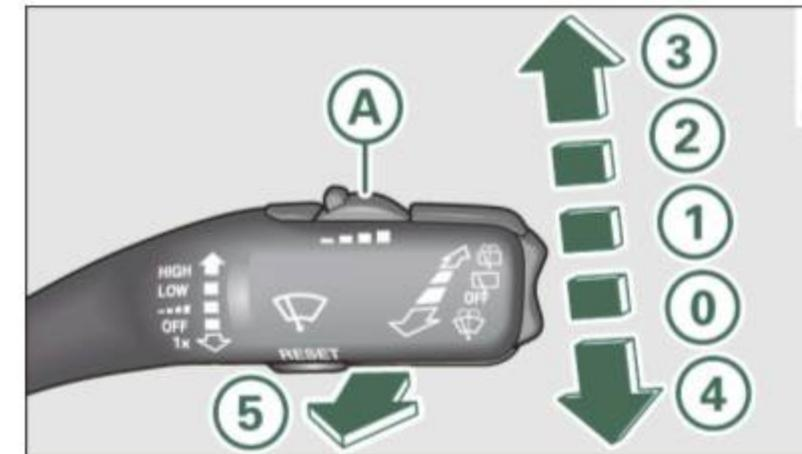

Fig. 60 Windshield wiper lever
- If the wiper blades are not frozen to the windshield, bring the windshield wiper lever to the basic position ① ⇒ page 61, fig. 60.